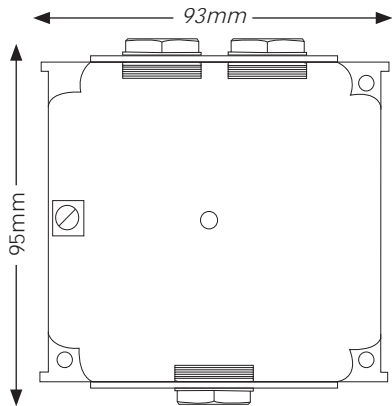

Fig 1 Backbox
1. Fit the backbox to a flat surface using the three fixing holes and screws provided. The cable entry holes should be in the vertical plane. The backbox can be mounted with either the single or double entry holes at the top.(Fig 1).